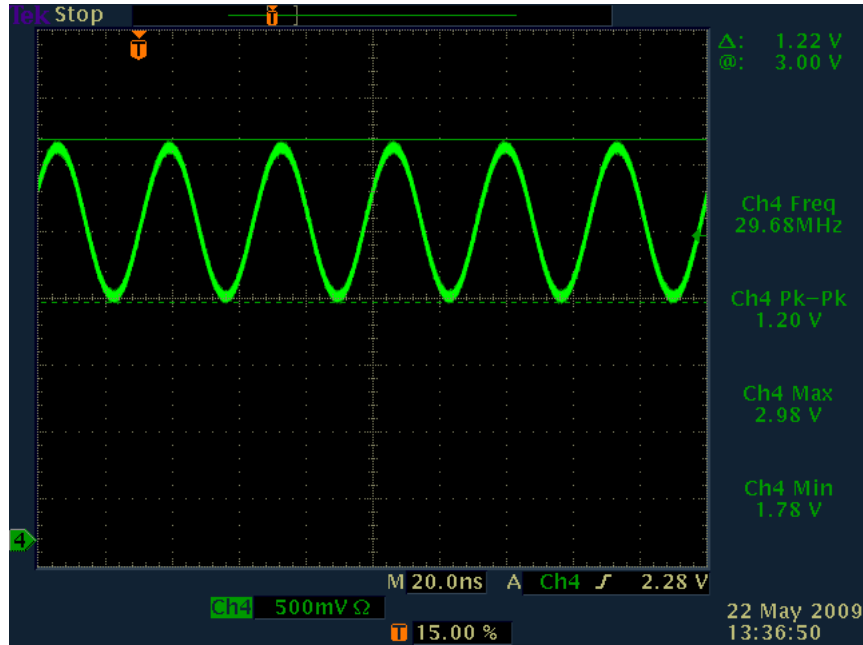

Figure 4.11: Measured: ADS5463 Input Signal 30MHz Sine Wave
1. Now that the DAC5682Z is functioning correctly I was able to loop the DAC output back into the ADC. The signal looks good at the output of the THS4302 Op-Amp, Anti-Alias Filter, and THS4509 Differential Op-Amp. Figure 4.11 shows the signal measured at the input of the ADS5463 High-Speed 16-bit ADC.